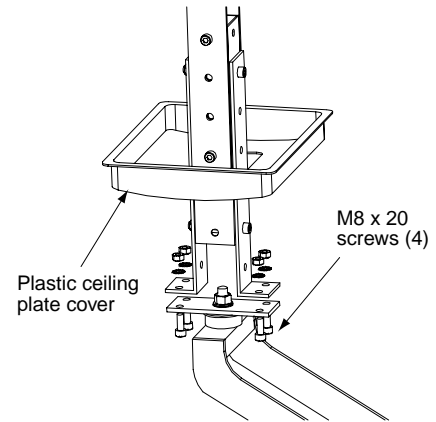

Figure 2
- ⑤ Fasten fixture to ceiling (see Fig. 2). (NOTE: Do not forget to use washers when attaching fixture and lid.) If necessary, adhere plastic ceiling plate cover to ceiling using double-sided tape.